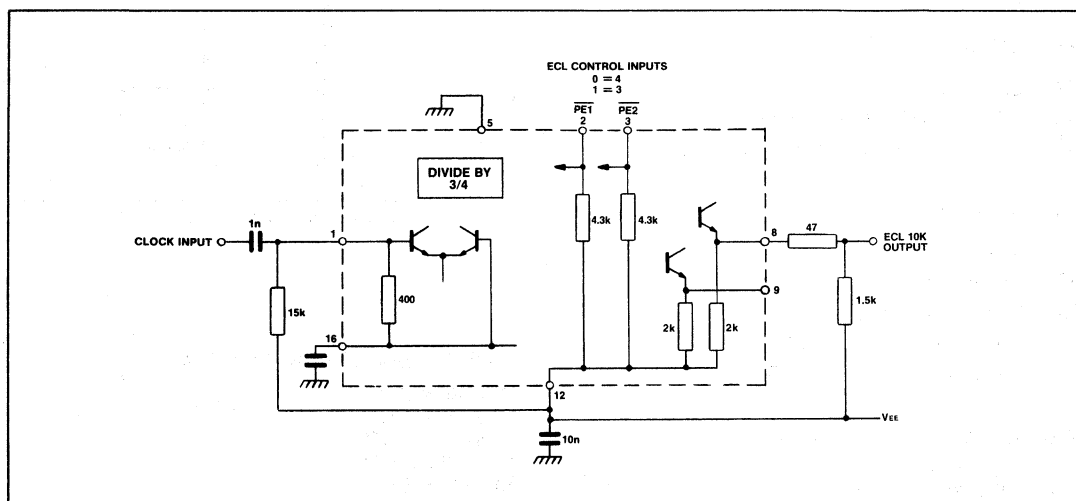

Fig. 7 Typical applications circuit showing interfacing
4. The Q and  $\bar{Q}$  outputs are compatible with ECL II but can be interfaced to ECL 10K as shown in Fig. 7. There is an internal circuit equivalent to a load of 2k pulldown resistor at each output.